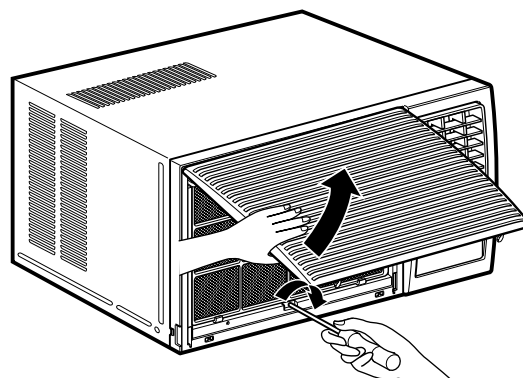

Figure 14
5. Re-install the component by referring to the removal procedure, above.(See Figure 14)